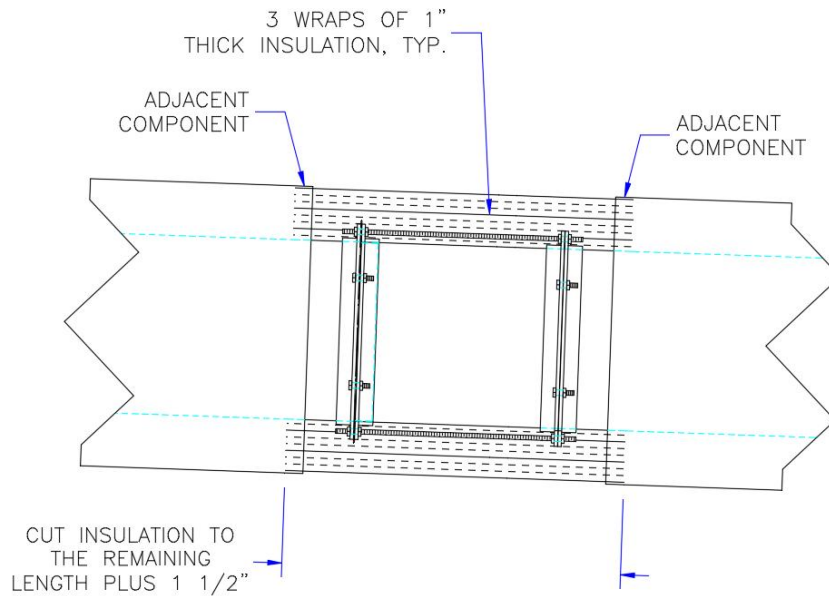

Figure 10: Wrap three wraps of insulation for GRZA and four wraps for GR4ZA.
19. Wrap 3 wraps of the 8" wide x 1" thick insulation that was provided for the completely installed adjacent component in the 7-1/2" space between the completely installed adjacent component and the spacer on the VLS. Make sure to overlap any seams in the wrap. (See figure 10)
20. Cut the 1" thick insulation provided with the VLS to 1 1/2" wider than the remaining gap between the two adjacent components. Wrap the liner 3 times with insulation being careful not to leave any gaps and overlapping any seams. (See figure 10)